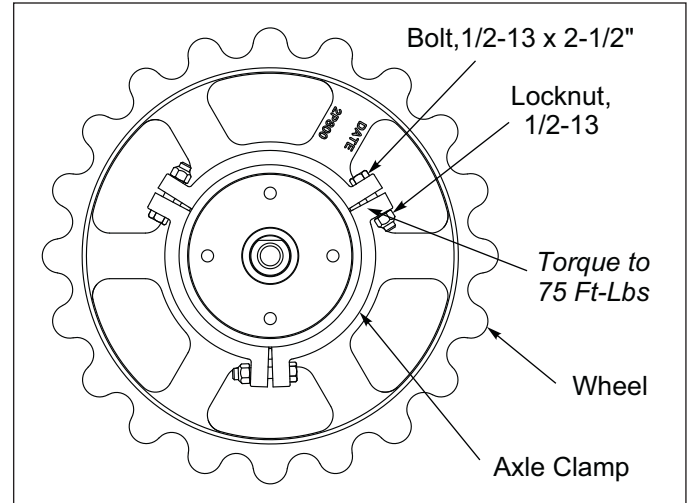

Figure 4-6: Clamp Tightening
1. Tighten the Clamp Bolts evenly to achieve equal spacing between clamp section. Torque to 75 Ft-Lbs. **See Figure 4-6.**